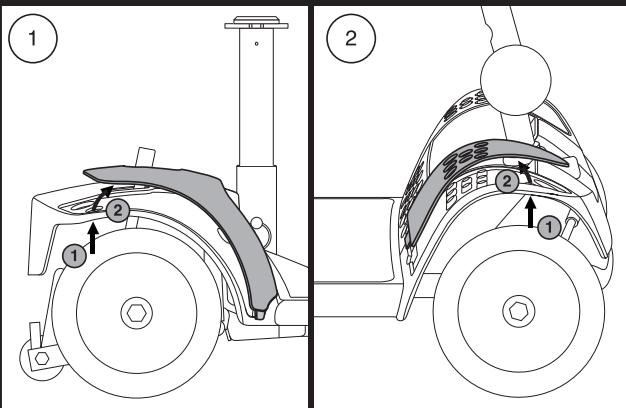

Figure 16. Fender Panels
2. Push through the hole to separate the piece from the Travel Scooter. See **figure 16**.
NOTE: When installing the front and rear fender panels, make sure the tab at the bottom of each panel is inserted into the tab opening before securing the panel. See figure 16.